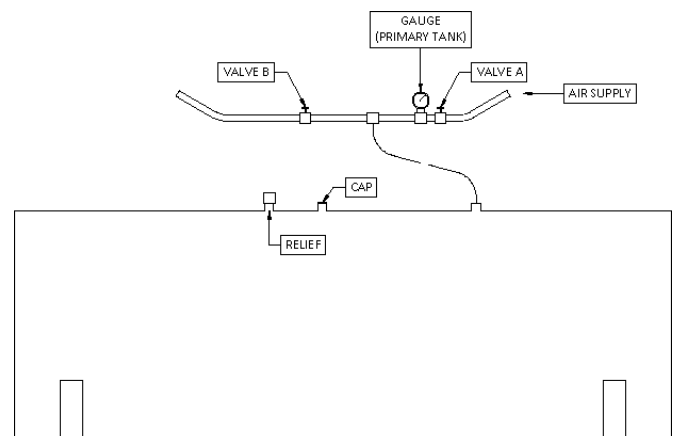

FIGURE 3.3.2
- 3.3.1 Install test piping as shown in Figure 3.3.2. Temporarily plug, cap, or seal off remaining tank openings to hold pressure.
- 3.3.3 Connect regulated test air supply line to test piping as shown in Figure 3.3.2.